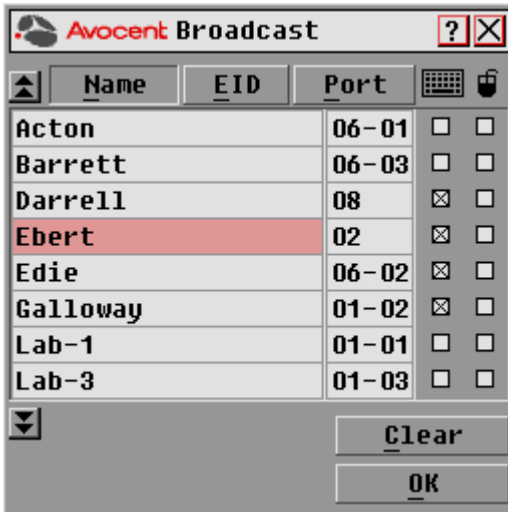

Figure 3.10: OSCAR Interface Broadcast Dialog Box
2. Click *Setup - Broadcast* to open the Broadcast dialog box as shown in Figure 3.10 on page 35.